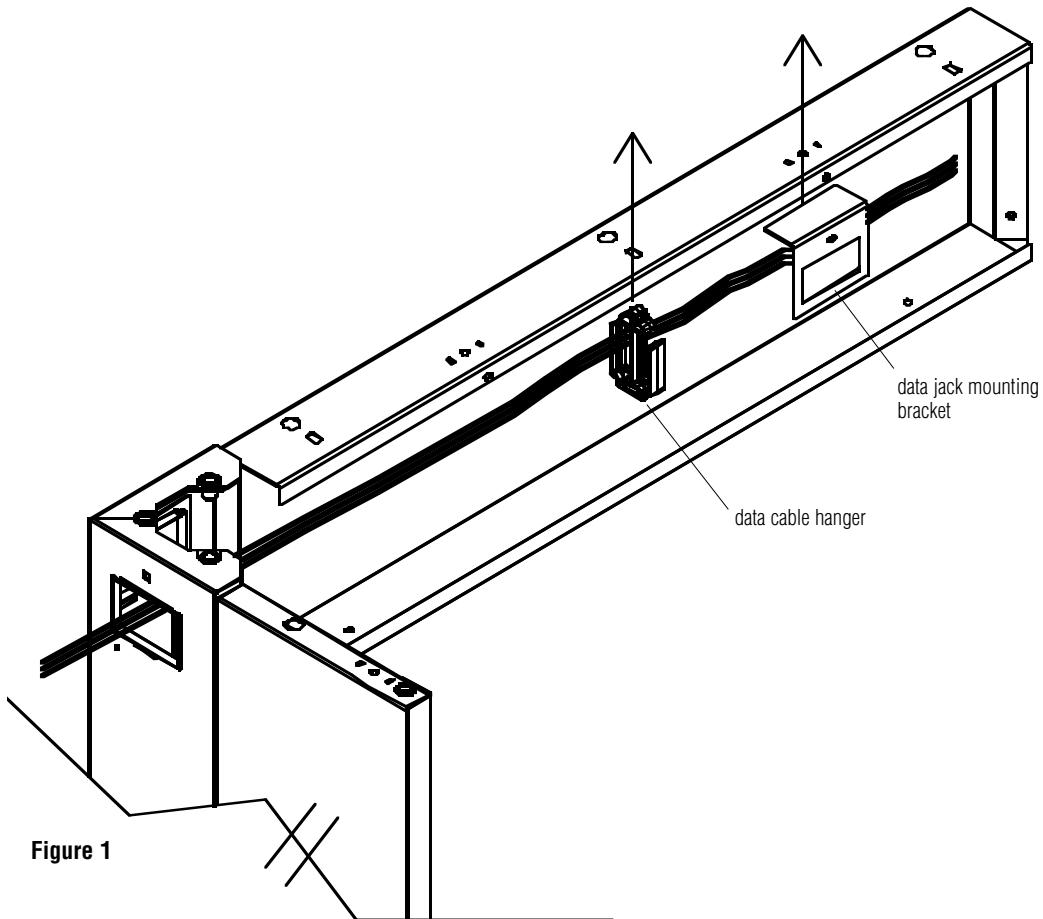

Figure 1
1. Locate rectangular hole in top surface of modesty panel beam. Align rectangular geometry on data cable hanger with hole and push up into position. Rotate 90 degrees clockwise to lock into position. Route excess cable through cable hanger (Figure 1).